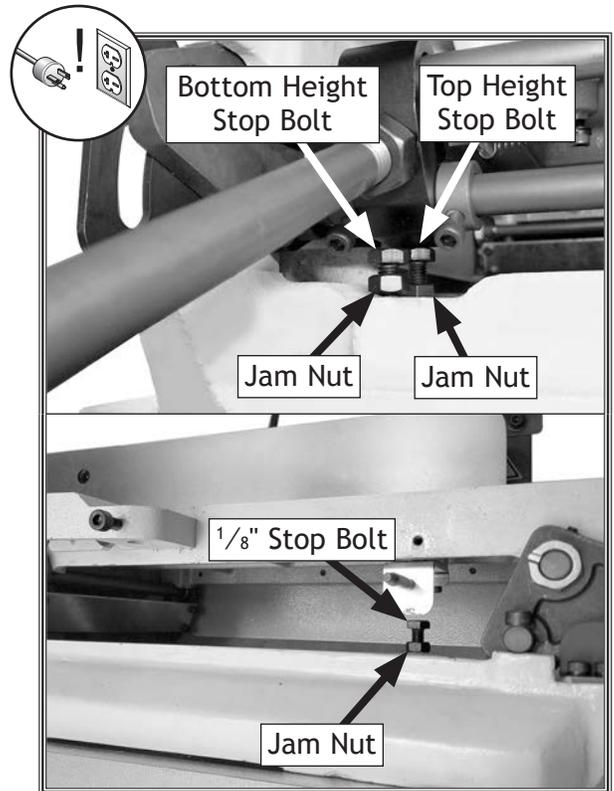

Figure 25. Positive stop bolts for infeed table.
The infeed table has three positive stop bolts (see **Figure 25**) that allow you to quickly adjust the infeed table between finish/final cuts and shaping/heavy cuts, and the maximum depth of cut of $\frac{1}{2}$ " (or less) when rabbeting.
2. Loosen jam nuts on both stop bolts (see **Figure 25**).
3. Raise table to minimum desired depth of cut, then tighten top height stop bolt (see **Figure 25**) until it contacts table. Tighten jam nut to secure stop bolt in position.